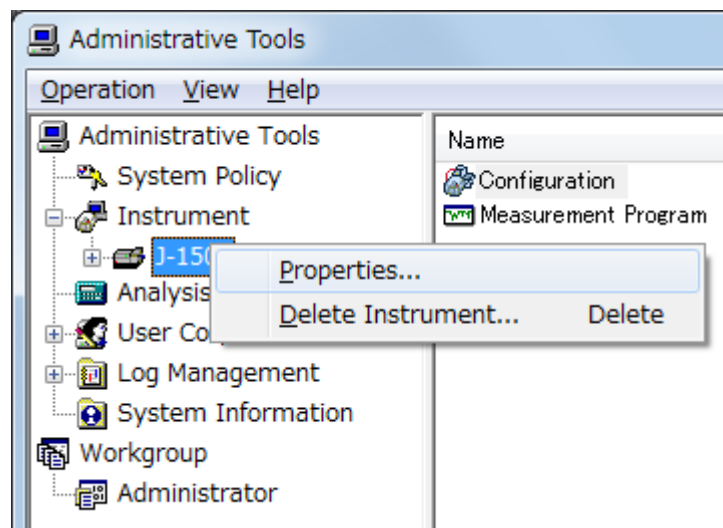

Figure 3.6 J-1000 instrument shortcut menu
- (1) Confirm that the CD spectrometer is turned on and that [Spectra Manager] is running. After starting [Administrative Tools], right-click the instrument name and select [Properties...] (see Fig. 3.6).